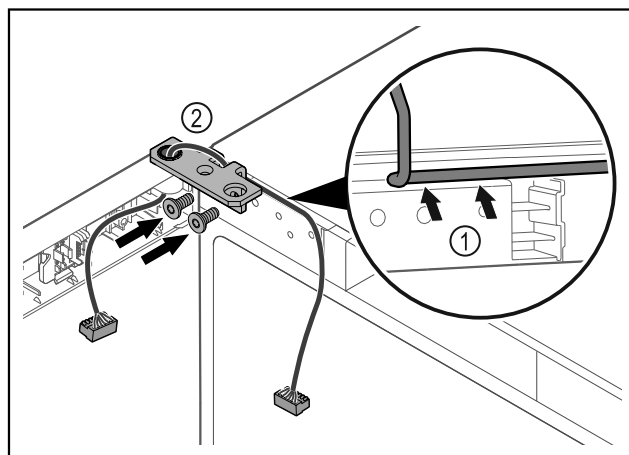

Fig. 45
- Feed the cable through the recess in the hinge and lay it carefully Fig. 45 (1).
- Screw on the hinge Fig. 45 (2).